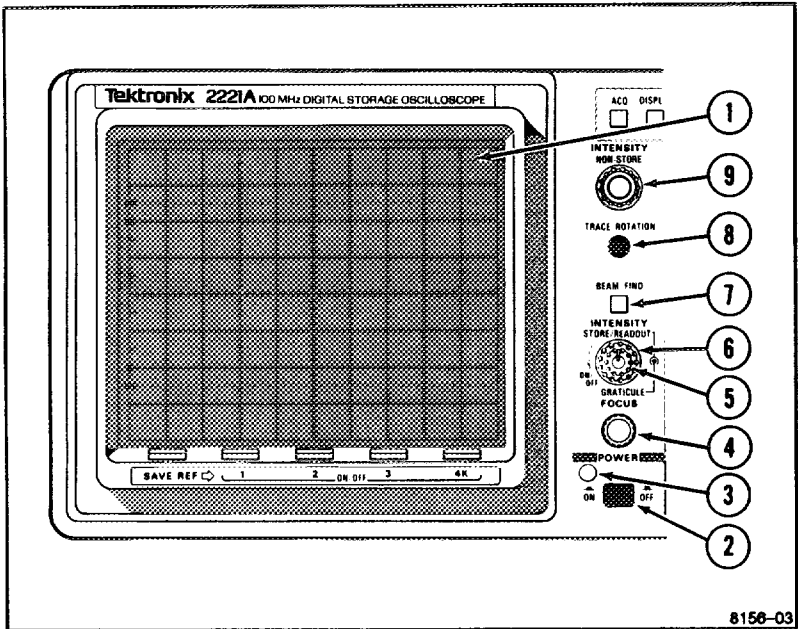

Figure 3-1. Power and display controls and power-on Indicator.
Refer to Figure 3-1 for location of items 1 through 10.